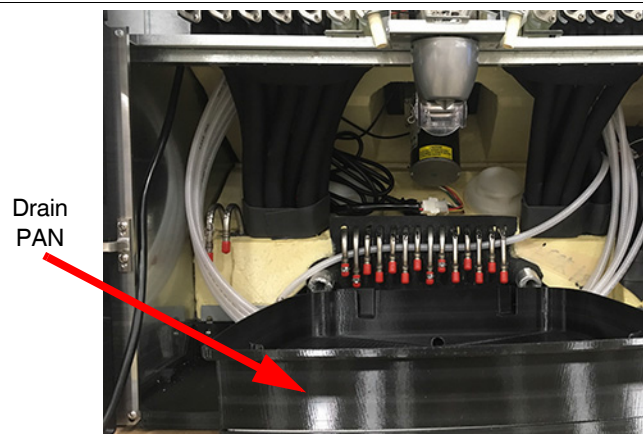

Figure 42
1. To replace the Enclave, the drain pan must be in position. Position the drain pan into the unit as shown in Figure 42.